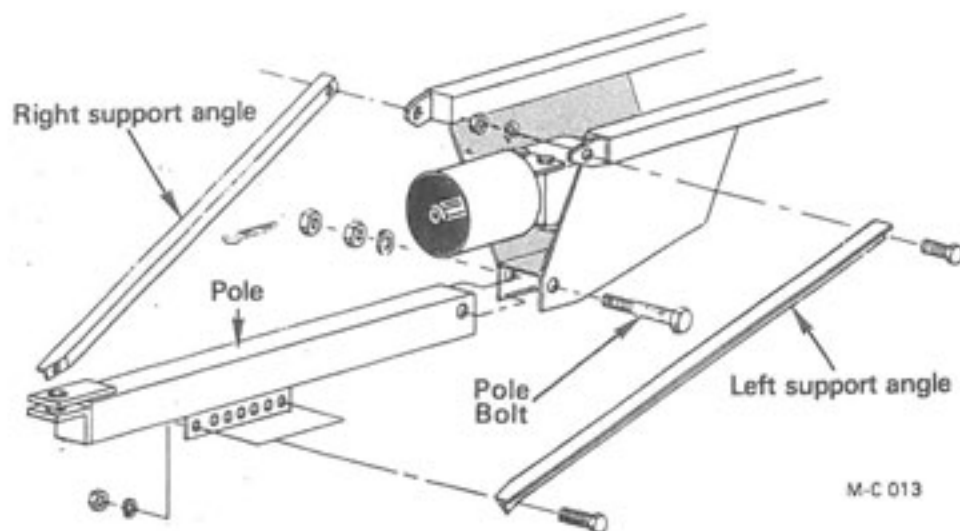

Figure 5
1. Lift the front of the Shredder with a chain hoist and place the pole in position under the gear box and install the pole bolt, lockwasher, hex nuts and cotter pin, see Figure 5 and 6.
2. There are seven pole support angle mounting holes on each side of the pole, see Figure 5 and 6. Select the position that will set the pole at the correct tractor drawbar height and keep the Shredder body as level as possible (see note). Secure the pole support angles with four $\frac{3}{4}$ "-10 x 2" (Grade 5) hex-head capscrews, lockwashers and nuts.